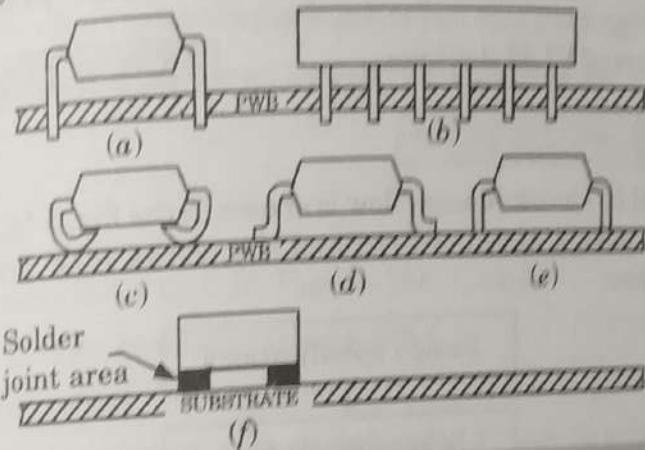

Fig. 5.13.1. (a) Dual-in-line package (b) Pin-grid-array package
- Fig. 5.13.1 illustrates the different methods of mounting to PWBs in use today.